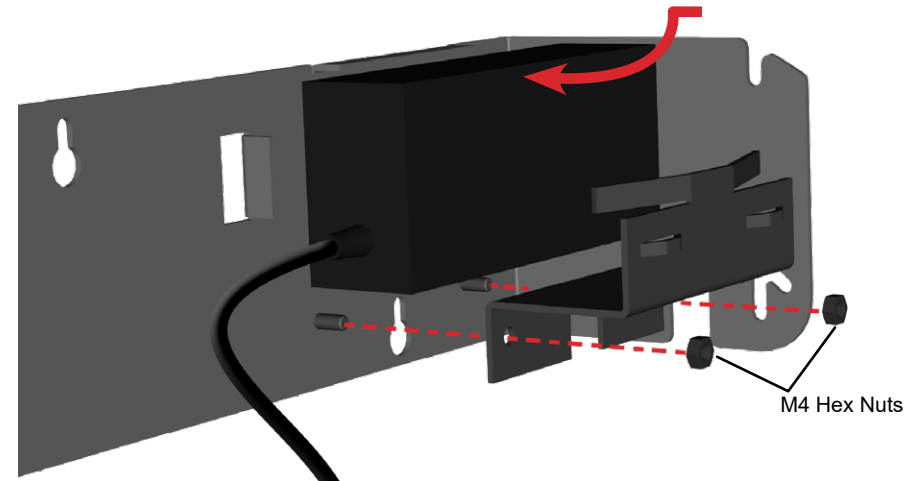

**Figure 6.** Remove rack brackets from the controller
1. If necessary, remove the existing rack mount brackets from the controller and reserve the M4 screws to attach the wall mount bracket (Figure 6).